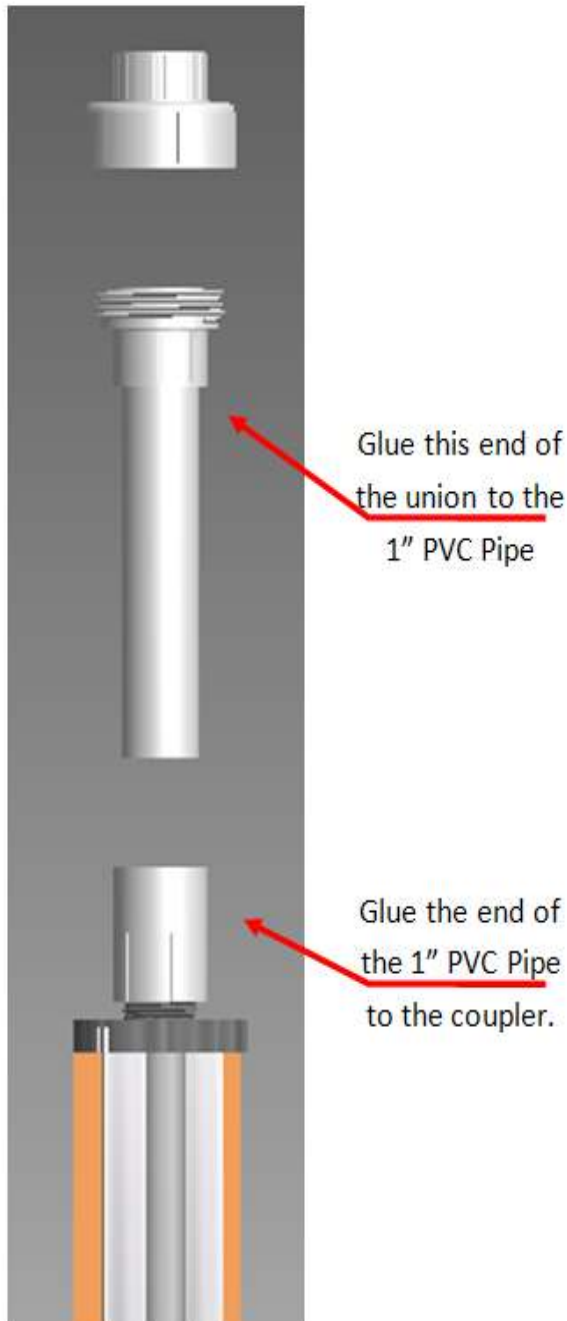

FIGURE 3
3. Glue the single side of the union to one end of the 1" PVC pipe. See figure 3. The opposite end will already be glued to the bushing on the control panel UV lamp wire.